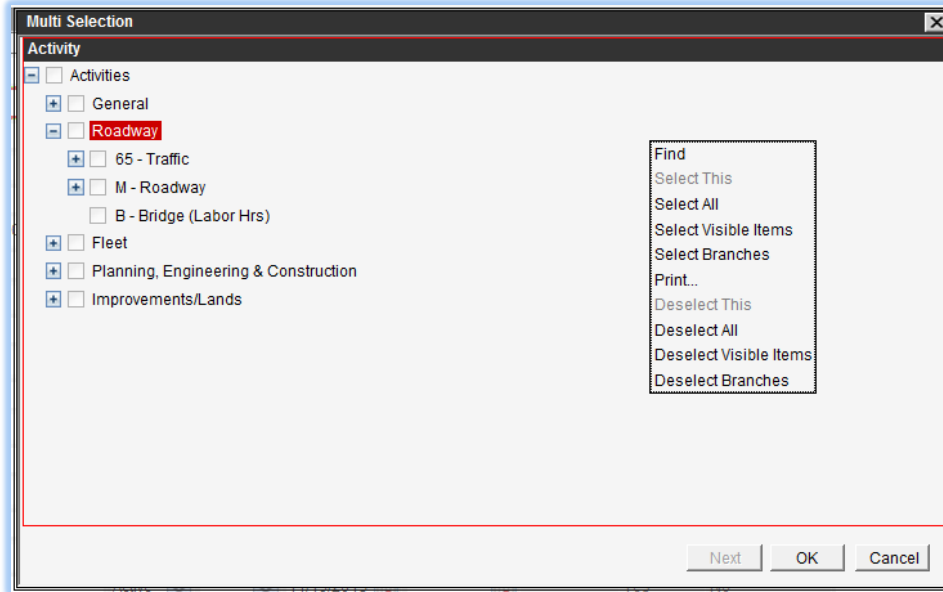

Figure 2-4. Dialog Box – Activity
7. Next is the Activity selection screen. (Figure 2-4), Expand the “Roadway” list to select Activities as applicable. Select all Activities that should be available to the Project,). Activities may be selected all at once, by way of the **Select Branches** command, or selected individually by a check box or the **Select This** command.